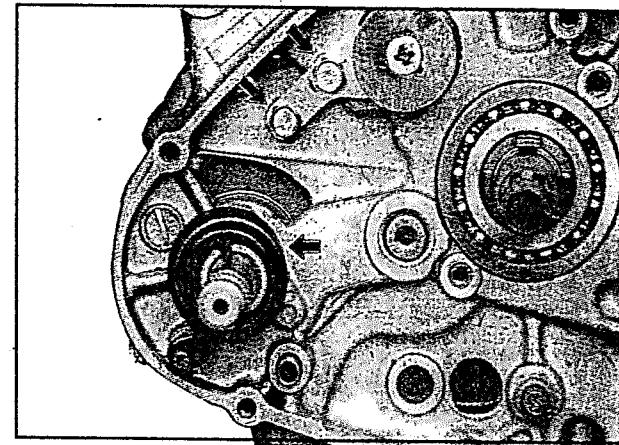

Fig 3.28
- Loosen the cam guide bolts (2 nos) and remove the cam guide (fig 3.28)
- Take off the kick starter lever return spring guide and then the spring (fig 3.28)